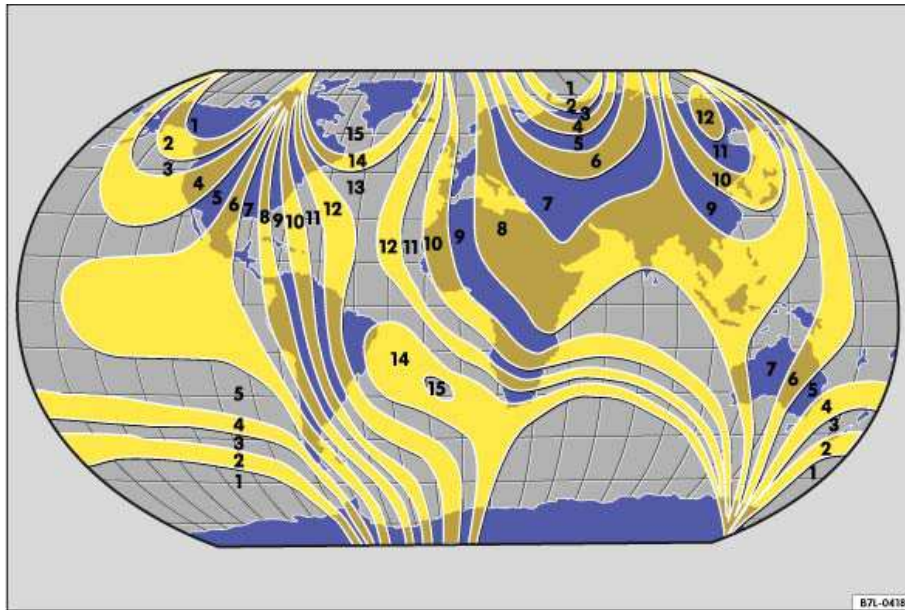

Fig. 15 Compass zones.
- Select the compass zone according to the current location ⇒ fig. 15.